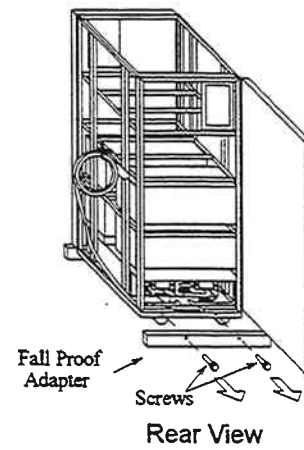

Fig. 3.3.5.2.3-1 Removal of Fall Proof Adapter
2. Remove the plate of the back side of the Disk Unit as illustrated in fig. 3.3.5.2-3.